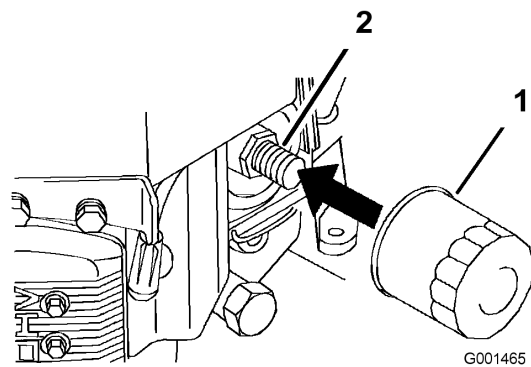

Figure 22
2. Remove the old filter (Figure 22).
3. Apply a thin coat of new oil to the rubber gasket on the replacement filter (Figure 22).
4. Install the replacement oil filter to the filter adapter, turn the oil filter clockwise until the rubber gasket contacts the filter adapter, then tighten the filter an additional 3/4 turn (Figure 22).